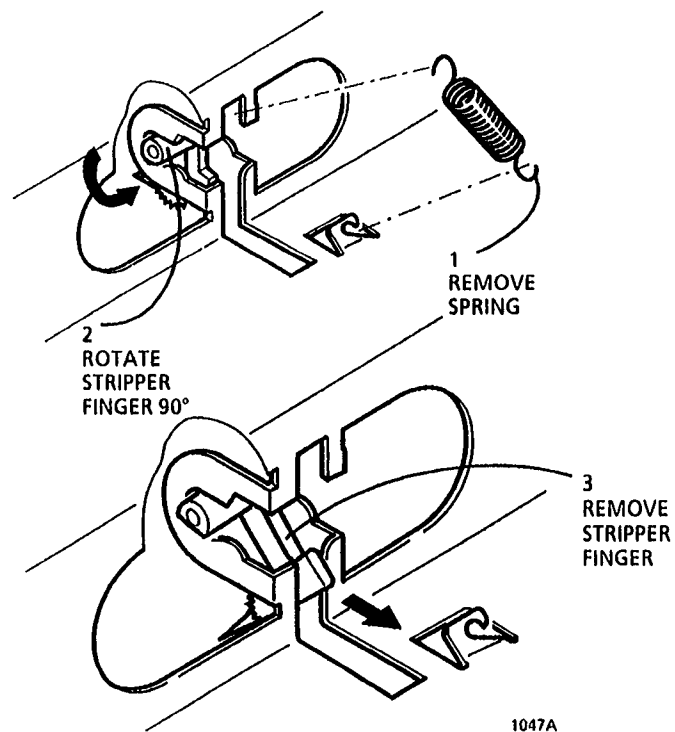

Figure 1. Removing the Stripper Finger
4. (Figure 1): Remove either stripper finger as required.